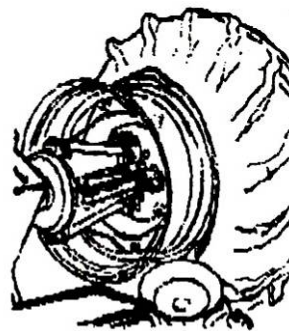

Fig2.12
- 5) Adjust removing and fixing hook and you can hook the edge of it from inside. Turn the tire in the clockwise direction until the edge of the tire is finished. Take the wheel circle clip (Fig2.12).